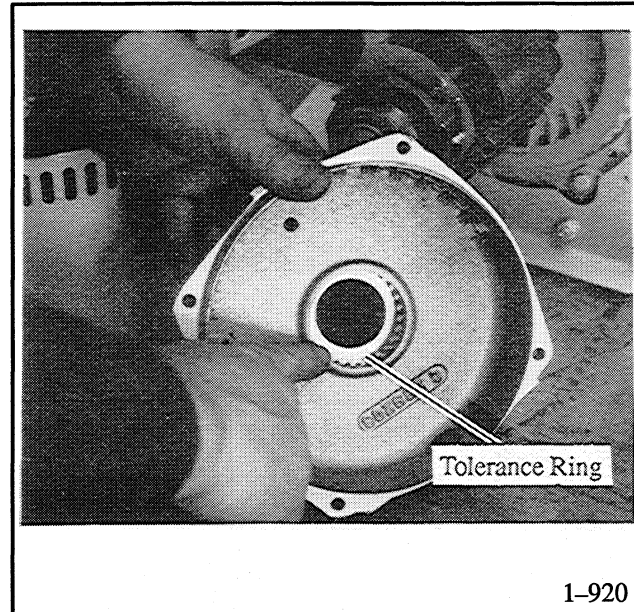

Figure 5-15. Tolerance Ring.
3. Install a new tolerance ring in the end bracket. Figure 5-15.